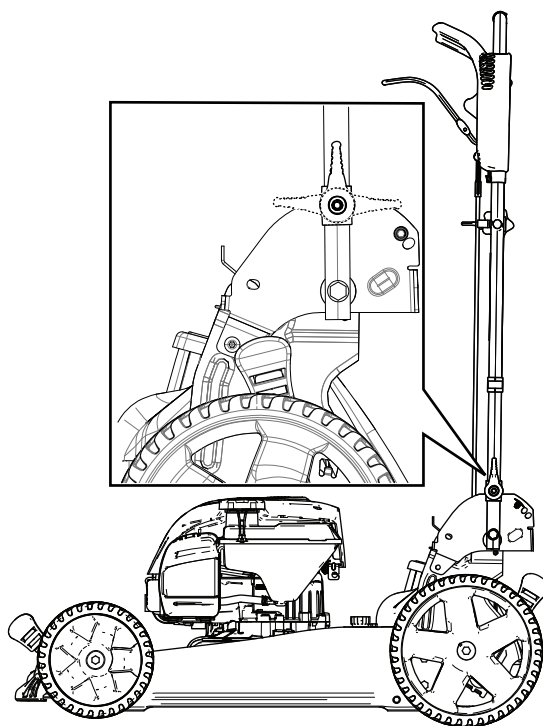

Figure 19
- Fold the handle forward either to the vertical position or the fully forward position as shown in Figure 19.